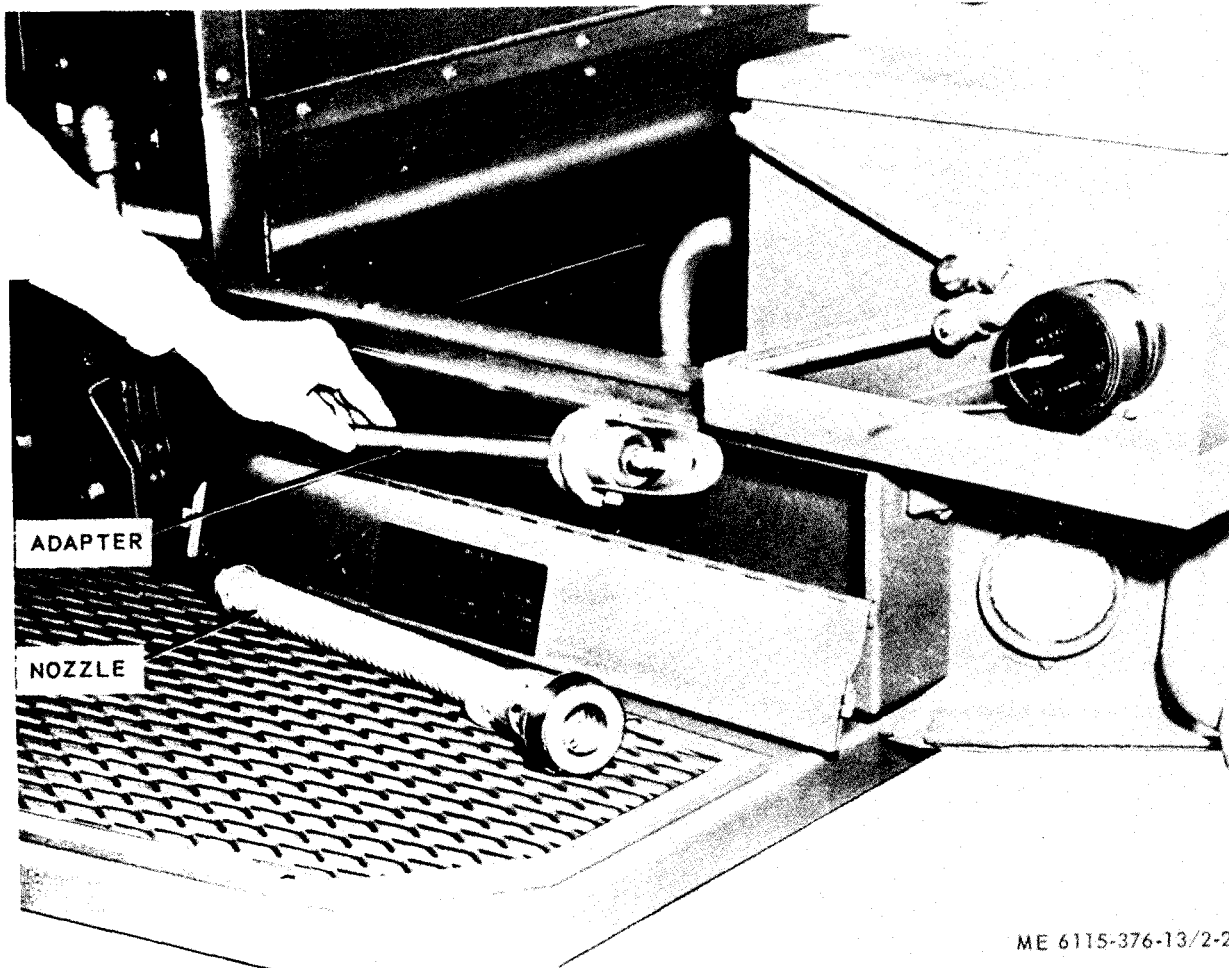

Figure 2-2. PU-407/M accessory box contents.
b. Remove fuel line adapter from accessory box of the PU-407/M (fig. 2-2) (or from the long accessory box of the PU-799/M).